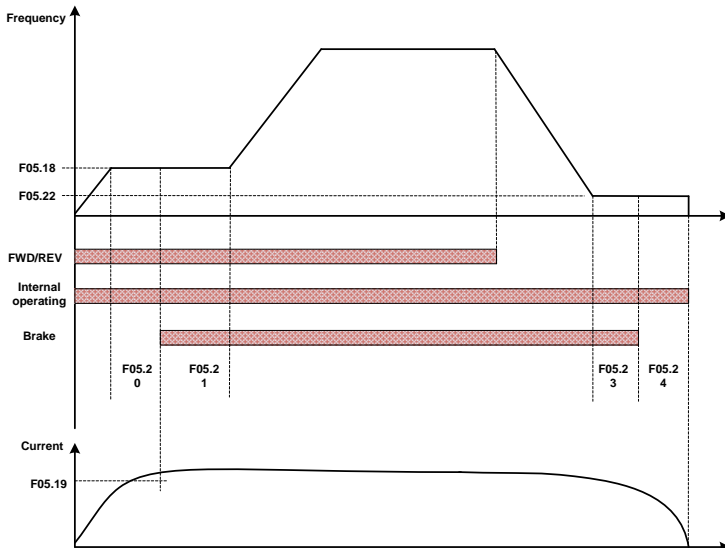

Fig 6-15 Break control logic scheme
See Figure 6-15 (1) and Figure 6-15 (2) for input/output bias of Table 6-3(1) and Table 6-3(2) respectively.